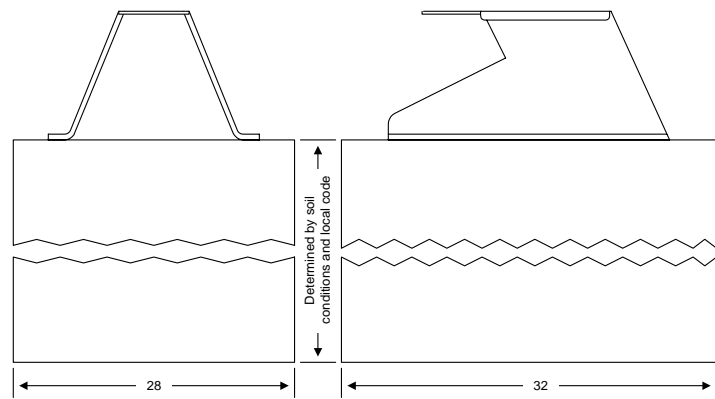

Figure 6
- Once the location of the pad and base plate has been determined, construct a form for the concrete pad according to Figure 6. Note that the depth of the pad is determined by soil conditions and local building codes. The pad is sized so that there is four (4) inches of concrete around the mounting plate when it is installed on the pad.